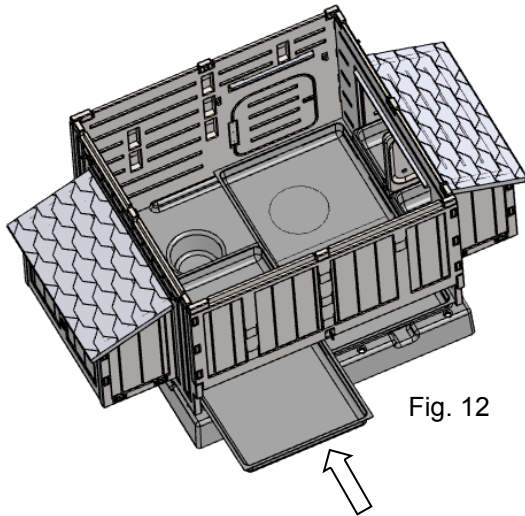

Fig. 12
Step 12: Slide the two Litter Trays into place. (Fig. 12)